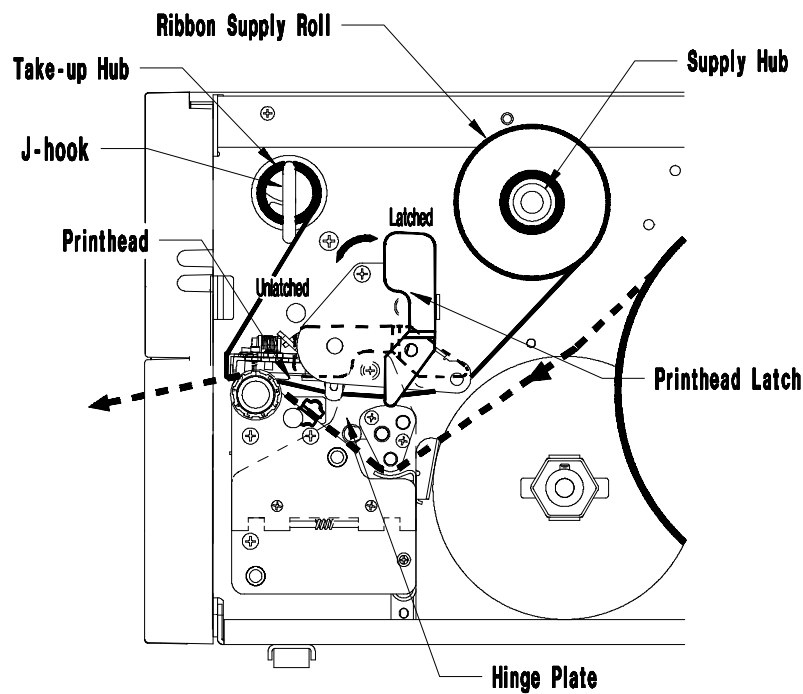

Figure 2-10 Ribbon Installation
5. Route the ribbon as shown in Figure 2-10 to the Take-Up Hub.